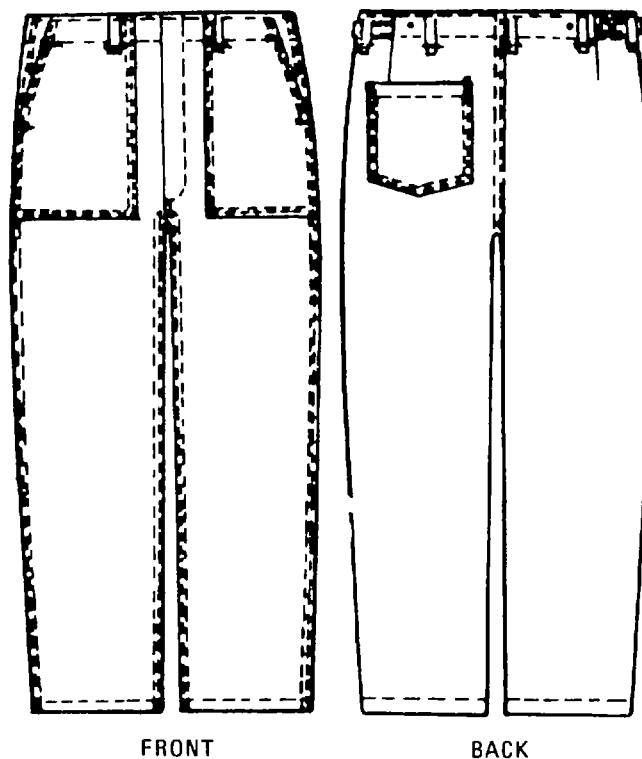

Figure 7-3. Trousers, food handlers, cotton drill, white (class 2).
- c. Trousers, Food Handlers, cotton drill, white, bakers and cooks, conforming to FED. BBB-T-651; NSN 8415-00-163-7701 through 8415-00-163-7704, 8415-00-163-9553 and 8415-00-163-1637. This item is fabricated of 6.5 ounce white cotton drill cloth. It has two side pockets, one hip patch pocket, belt loops, waist adjustment tabs and slide fastener fly (see figure 7-3)